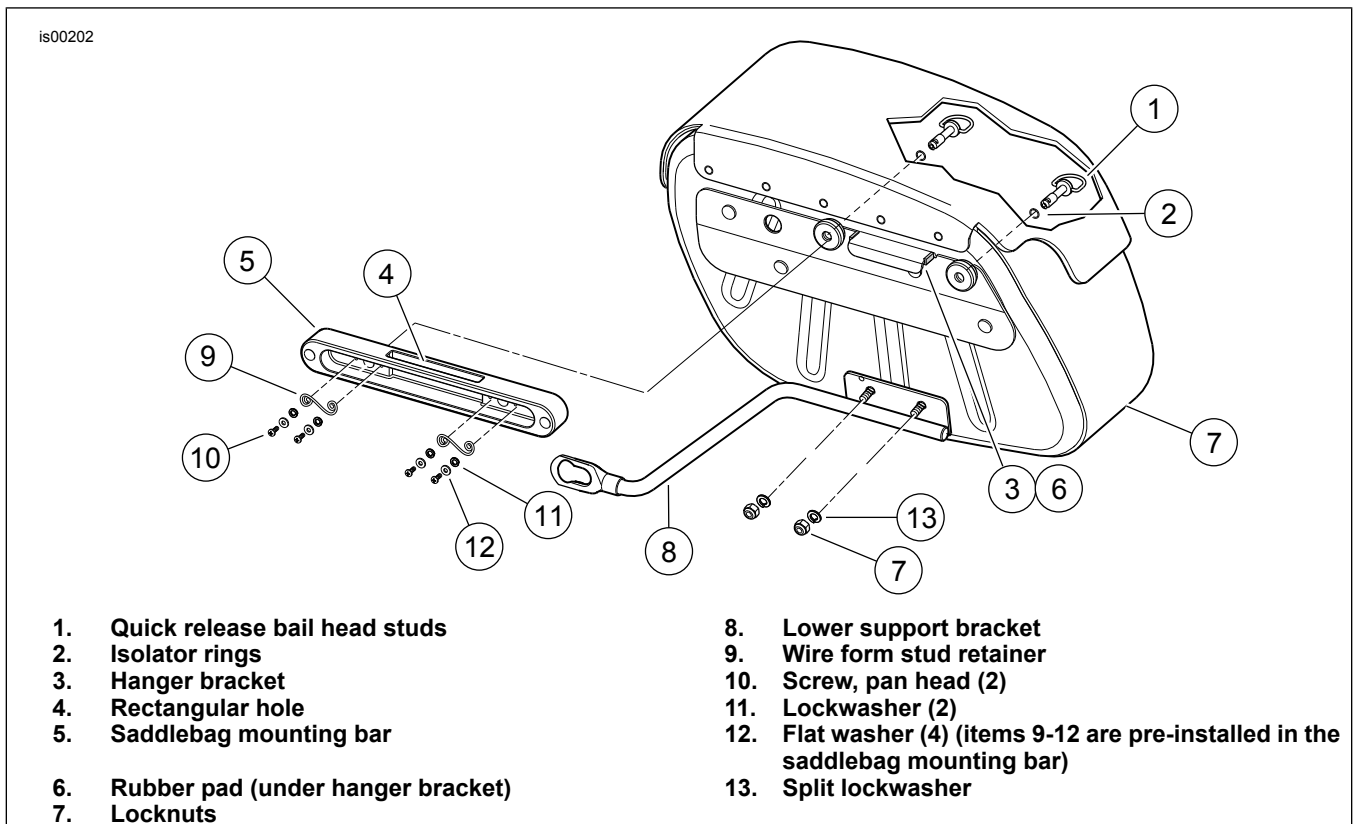

Figure 5. Rear View of Saddlebag and Saddlebag Mounting Bar
1. For 2006 and later FL Softail and 2000-2005 Softail models, unbolt lower support arm from both saddlebags. Replace arms with arms from Saddlebag Support Kit 90455-04. Re-install as shown in Figure 5. Tighten locknuts (7) to 7–11 N·m (60–96 in-lbs).
3. See Figure 5. With the two quick-release bail-head studs (1) fully retracted into the isolator rings (2), rotate the saddlebag down until the hanger bracket (3) fits into the rectangular hole in the top of the saddlebag mounting bar. Check to make sure the molded rubber isolator pad (6) on the underside of the hanger bracket sits squarely on the top of the bar.
6. See Figure 5. Make sure the lower support bracket (8) is fully inserted into the groove in the docking point. If it is not fully inserted, loosen the locknuts (7) securing the lower support bracket to the saddlebag frame, and adjust the support rod forward or back as needed. Alternately tighten the nuts to 7–11 N·m (60–96 in-lbs) after fully inserting the lower support bracket.
After 15,000 to 20,000 miles (24,000 to 32,000 km) of on-road use with the saddlebags installed, it is necessary to replace the wire form stud retainers shown in Figure 5. Two Stud Retainer Kits (Part Number 70923-04) will be needed, and are available for purchase at any Harley-Davidson Dealer.